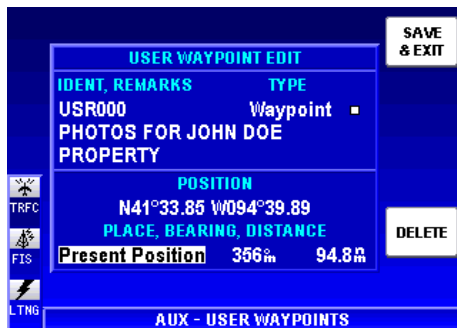

Figure 1-75
13. The second way to enter the position of a waypoint is by entering the bearing and distance from a known position, such as an airport or navaid. This is done by first using the Joystick to place the cursor over **Present Position** as shown in Figure 1-75. Turn the Rotary Knob one increment to display the **WAYPOINT ENTRY** window as shown in Figure 1-76.